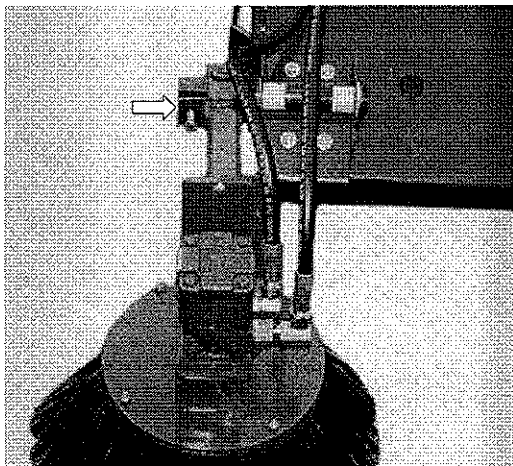

figure 18
- Gutter brush pin zerk (inside the tube) (figure 18)